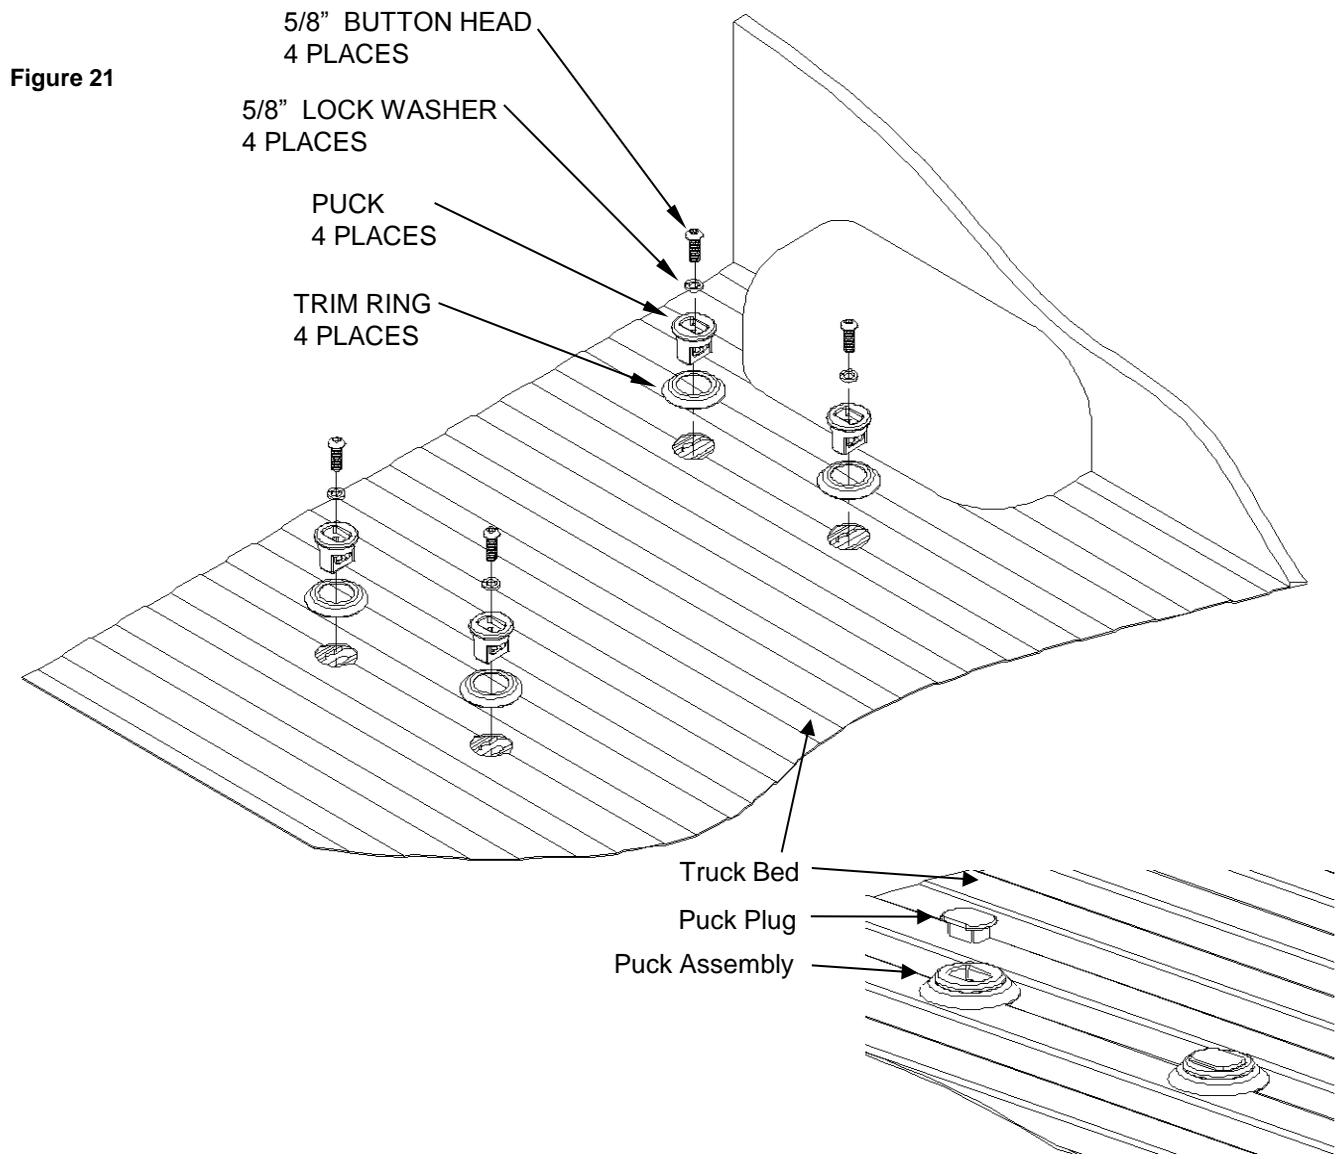

Figure 22
- 17. Insert puck plugs in plugs whenever pucks are not in use. (Figure 22)